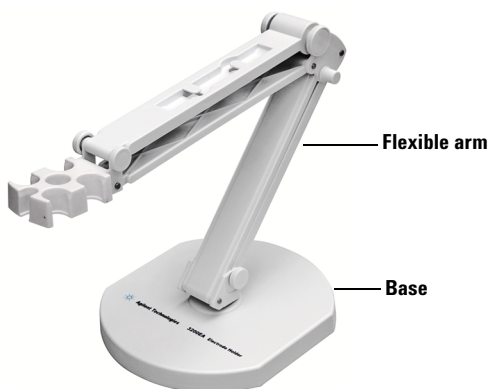

Figure 1 Installing the flexible arm into the base
- 4 Insert the flexible arm into the base as shown in Figure 1.